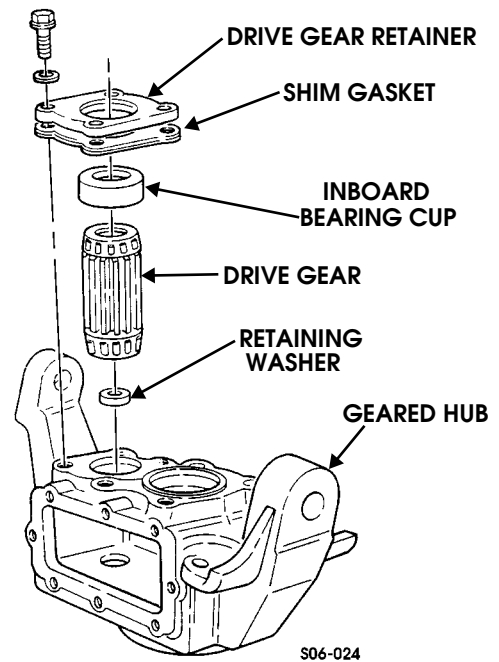

Figure 9-29: Retaining Washer Location
- Install retaining washer in shallow end of drive gear (Figure 9-29).